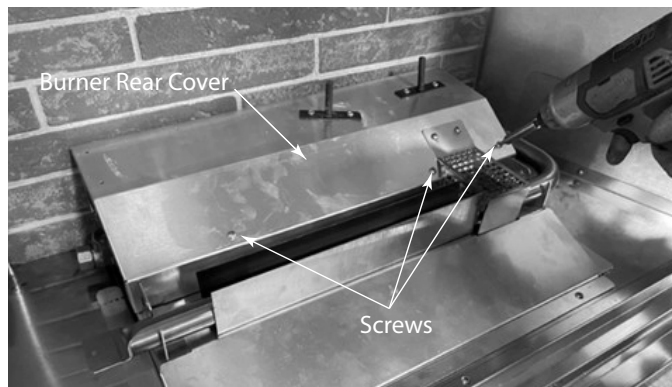

Figure 8.2
3. To remove rear refractory, it is necessary to remove the Burner Rear Cover. Remove (3) screws securing cover, lift cover to remove and set aside. See Figure 8.2.